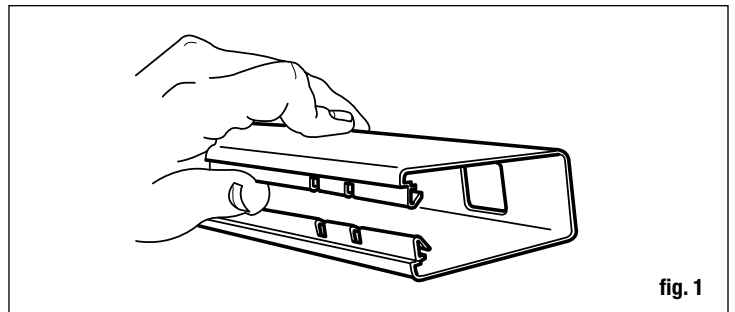

fig. 1
- Take one of the rails and gently open up the throat with your hand or a wooden wedge (fig. 1). This will become the bottom rail of the assembly.